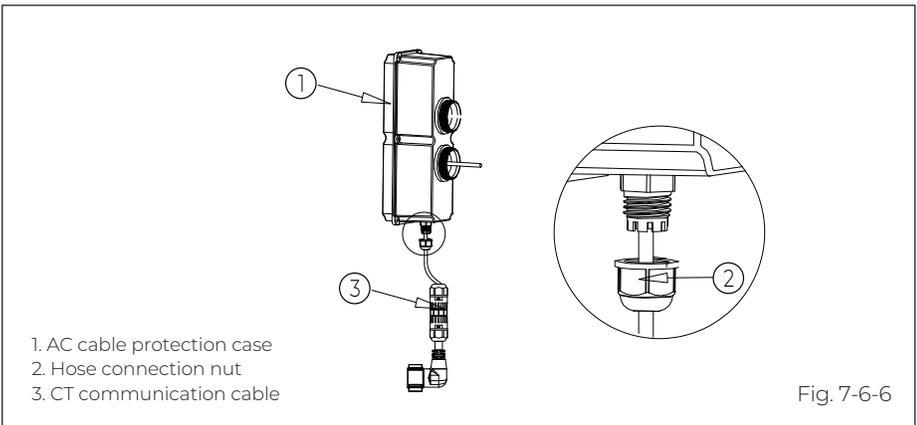

Fig. 7-6-6
**Step 7:** Thread the CT communication cable through a PG connector, emerging from the lower hole of the case, as shown in Fig. 7-6-6.